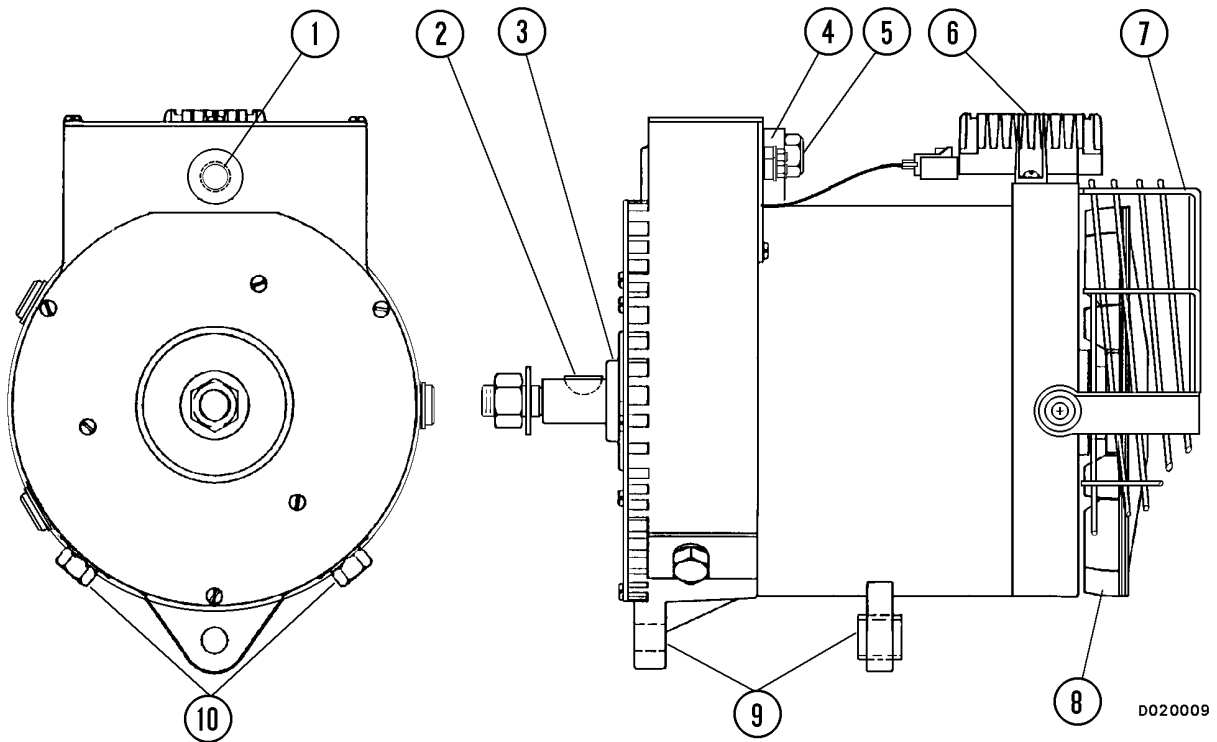

FIGURE 10-1. ALTERNATOR EXTERIOR
The Niehoff model N1227 or C609 (Figure 10-1) is a heavy duty, 24 VDC unit rated at 240 amps. A solid state voltage regulator (6) mounted externally on the end housing assembly provides voltage control during operation. A single output connection (5) is located on the face of the control unit (4) for connection to the truck battery positive circuit. The ground circuit cable can be attached to either of two terminals (10) located on the front housing. A fan guard (7) protects maintenance personnel from the rotating fan when the engine is operating.